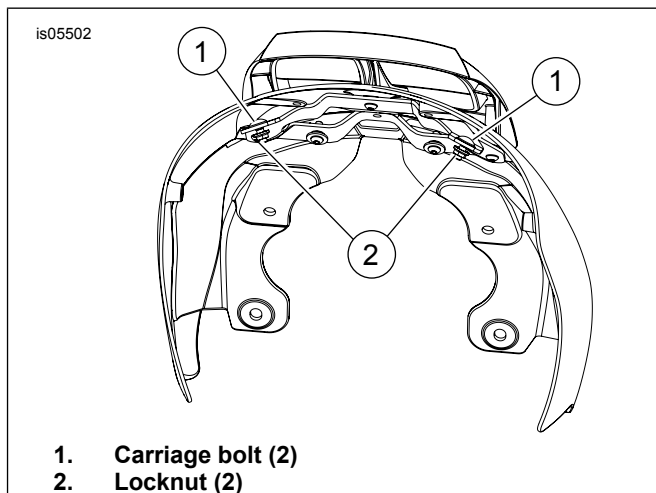
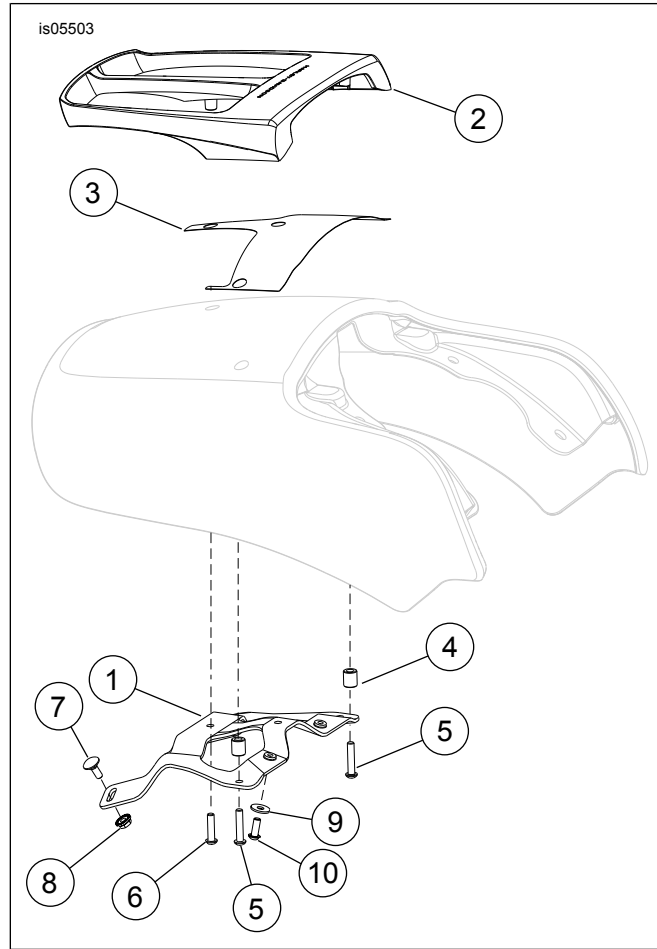

Figure 4. Install Carriage Bolts
Figure 5. Service Parts: VRSCF Luggage Rack
See Figure 5 and Table 1.
5. See Figure 5. Remove the masking tape from the holes and apply the protective tape (3) to the painted surface using the drilled holes for alignment.
7. See Figure 5. Insert spacers (4) in the forward mount locations in the fender.
8. Align the luggage rack bracket (1) with the spacers. Install screws (6) and tighten finger-tight.
9. Install the two screws (5) in the forward mount locations and tighten finger-tight.
13. See Figure 4. Install the carriage bolts (1) through the slots on the luggage rack bracket and the frame. Install the flange nut (2) and tighten finger-tight.
14. See Figure 5. Install two screws (10) and flat washers (9) through the holes in the seat pan and into the weld nuts on the luggage rack support bracket (1). Tighten finger-tight.
17. See Figure 5. Tighten the nuts (8) and screws (10) to 7–9 N·m (62–80 in-lbs).